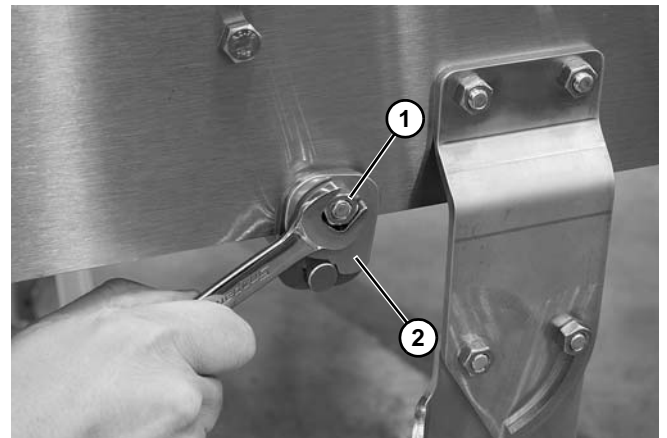

Figure 59
1. Loosen nut (**Figure 59, item 1**) and rotate return clip (**Figure 59, item 2**) up on both sides of conveyor. Loosely tighten nuts to hold clip in place.